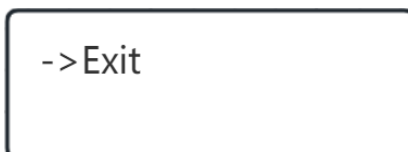

Figure 3.6-4 Exit the settings submenu
- ④ Press the [\wedge][V] keys to move the setting cursor to **【Exit】**, as shown in Figure 3.6-4. Press and hold both keys to exit the setting submenu.